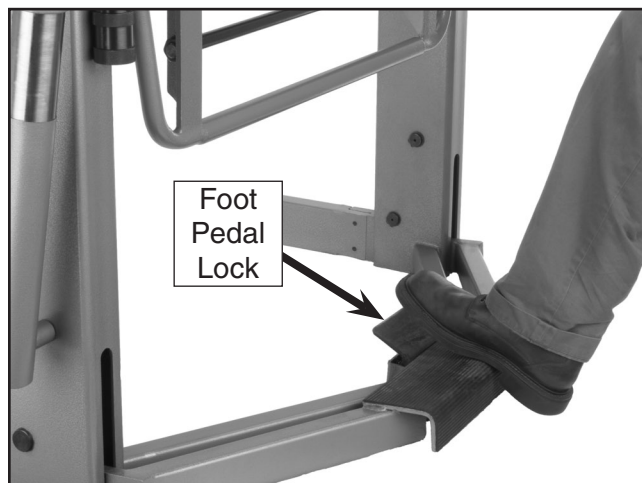

Figure 14. Foot pedal lock engaged.
1. Apply steady downward pressure on the foot pedal; as you do, the fingers lower correspondingly. The foot pedal lock should engage when the pedal is fully depressed, as shown in **Figure 14**.